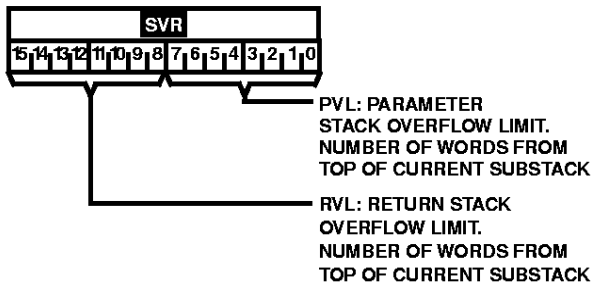

FIGURE 8. **SVR** BIT ASSIGNMENTS
**SVR**: The Stack Overflow Limit Register is a write-only register which holds the overflow limit values (0 to 255) for the Parameter Stack (bits 0-7) and the Return Stack (bits 8-15). These values must be written together. See Figure 8.